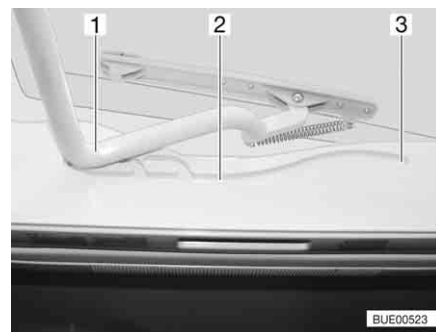

Fig. 89 Heki skylight, guide
- Pull the bar (Fig. 89,1) in the guides (Fig. 89,2) to the rearmost position (Fig. 89,3).
- Use both hands to push the bar (Fig. 89,1) slightly upwards.
- Pull the bar in the guides (Fig. 89,2) to the desired position.